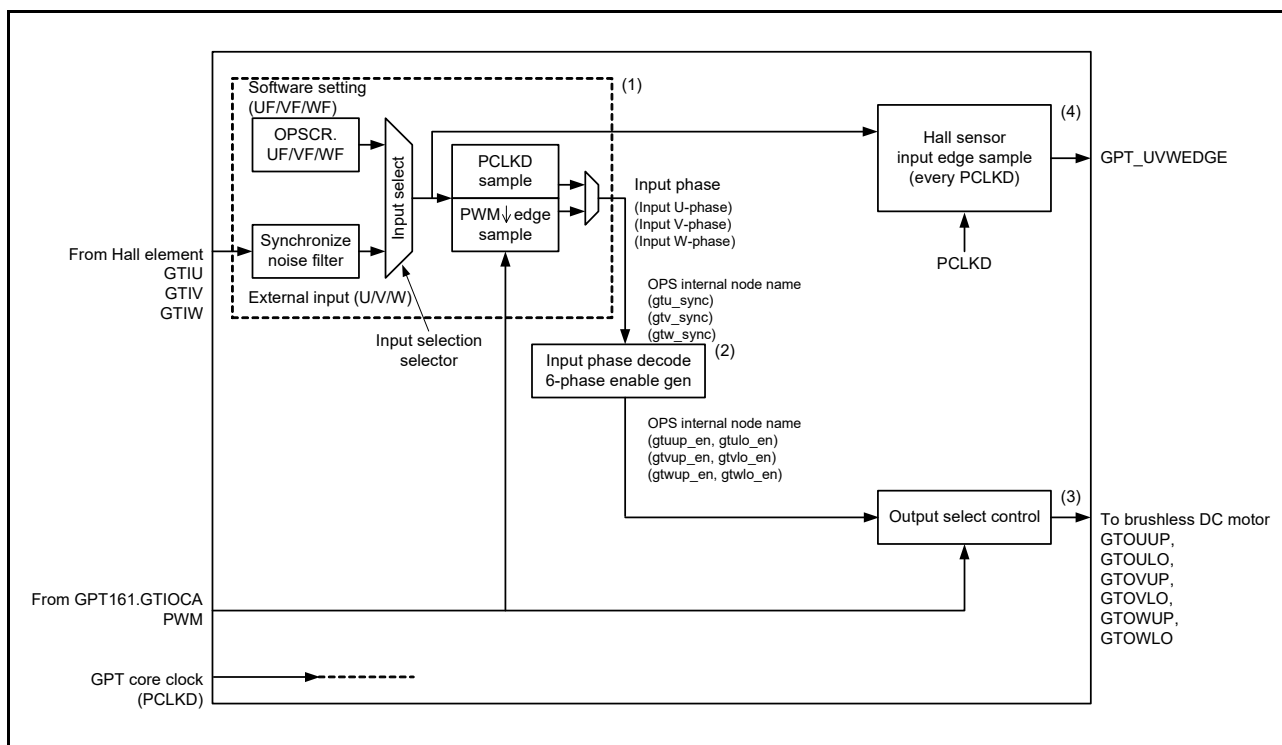

Figure 21.77 Conceptual diagram of GPT_OPS control flow
Figure 21.77 shows the conceptual diagram of GPT_OPS control flow.
In the GPT_ OPS control flow conceptual diagram shown in Figure 21.77, (1) is a selection of input phase from the software settings and external input by the OPSCR.FB bit.
In the GPT_OPS control flow conceptual diagram shown in Figure 21.77, (2) enables the 6-phase signals by decoding the input phase selected by the OPSCR.FB bit. The 6-phase enable signal is used for internal processing of GPT_OPS.
In the GPT_OPS control flow conceptual diagram in Figure 21.77, (3) represents the selection of the output waveform by setting the OPSCR register bit.
In the GPT_OPS control flow conceptual diagram shown in Figure 21.77, (5) outputs the Hall sensor input signal edge to the ELC.